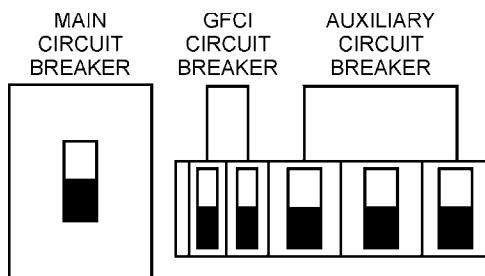

Figure 53. Main, GFCI and Load Circuit Breakers (OFF)
1. Place both the **MAIN, GFCI and LOAD** circuit breakers as shown in Figure 53 to the **OFF** position.